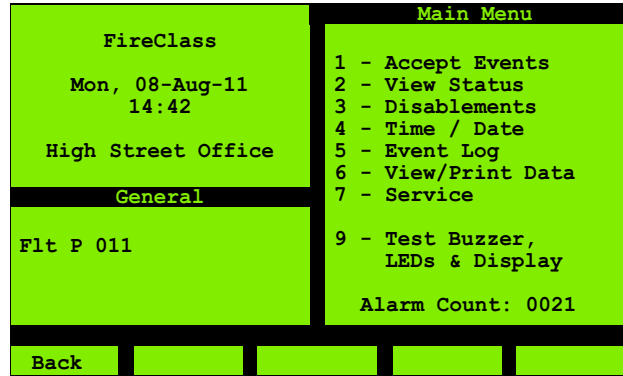

Fig. 8: Main Menu
You now see the Main Menu shown in Figure 8. Note how the **Menu** key (F1) has been replaced with a **Back** key, for exiting menus.
Most of the menu options are only available once you have logged on. Figure 8 shows all the options. If you have one of the lower access levels, you may not see all these options.
- 1 Enter your passcode to display the Main Menu as shown in Figure 8 (this is not strictly necessary when viewing status, and is only included for the purposes of the illustration):